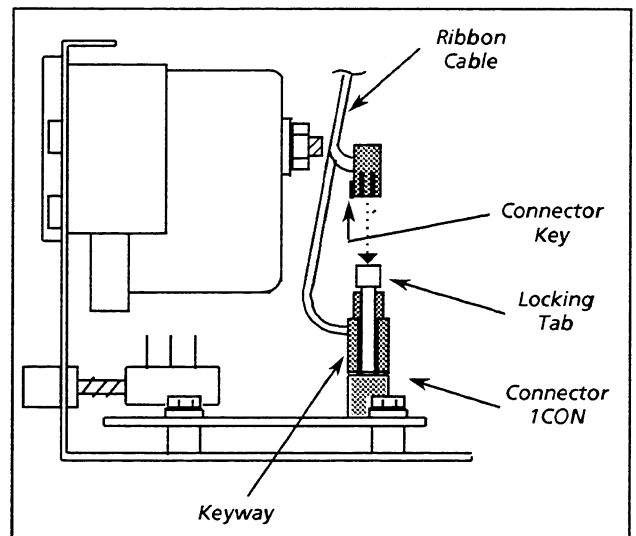

Figure 2. Ribbon Cable Orientation on 1CON
1. Connect one end of the ribbon cable (supplied) to the Meter Module board connector **1CON** in a fashion indicated by Figure 2. Verify that the locking tabs are in place.
The keyway and arrow, on connector **1CON** and the ribbon cable connector, *must* be aligned as shown in Figure 2.